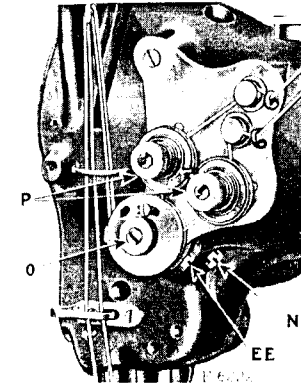

Fig. 23. Adjustment of Thread Controller
The tensions on the needle threads are regulated by the thumb nuts (P, Fig. 23) at the front of the tension discs on the front of the machine. To increase the tension, turn these thumb nuts over to the right. To decrease the tension, turn these thumb nuts over to the left.
To change the thread controller stop for more controller action on the thread, loosen the set screw (EE, Fig. 23) and rotate the thread controller spring stop to the right; for less action, rotate to the left, after which securely tighten the set screw (EE).
To increase the tension of the thread controller on the threads, loosen the tension stud set screw (N, Fig. 23), located nearly under the tension stud, and turn the tension stud (O, Fig. 23) slightly to the left with a screwdriver, or to decrease the tension, turn it to the right and retighten the stud set screw (N).